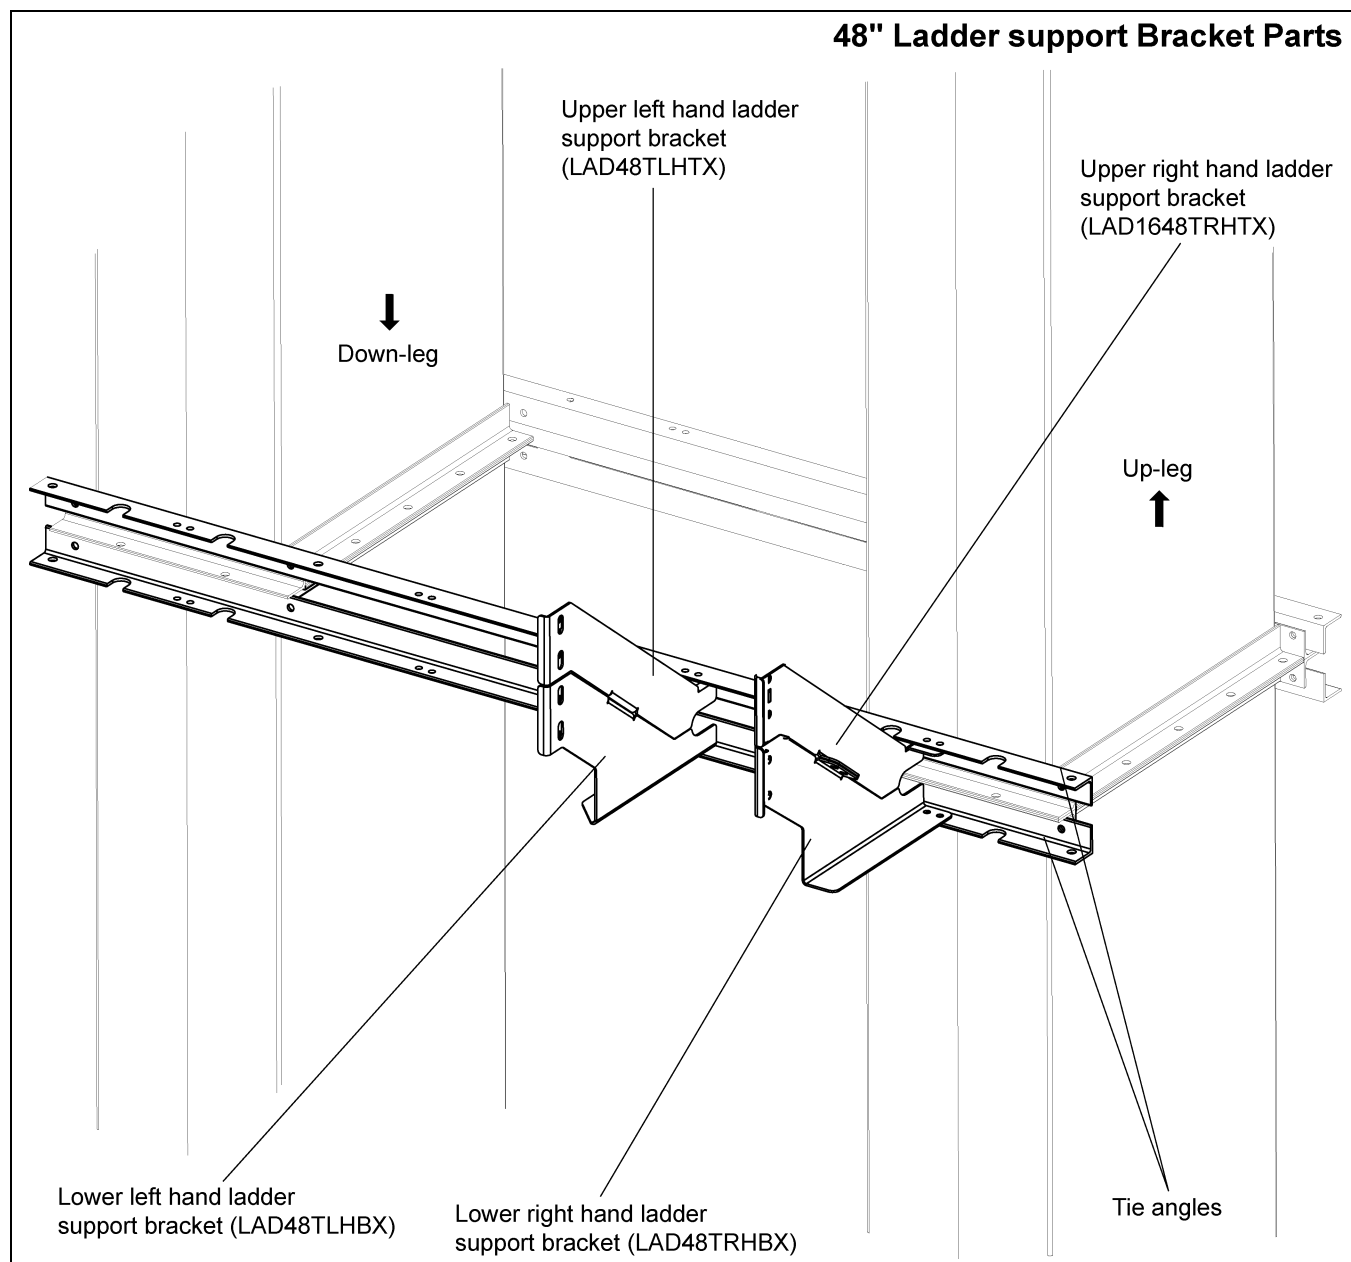
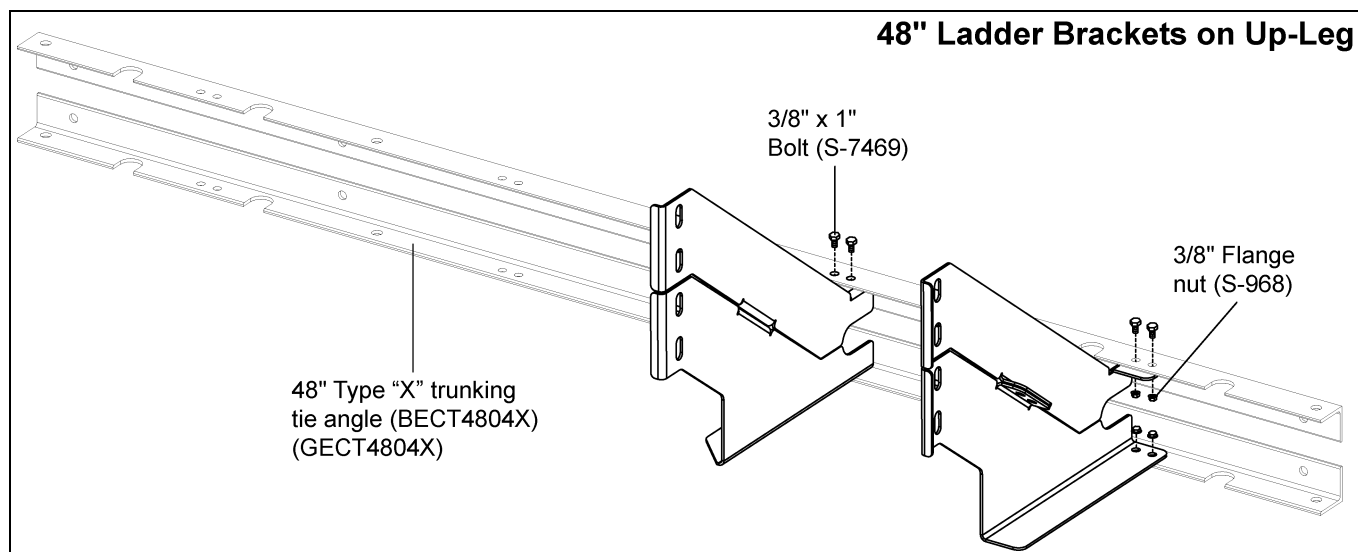
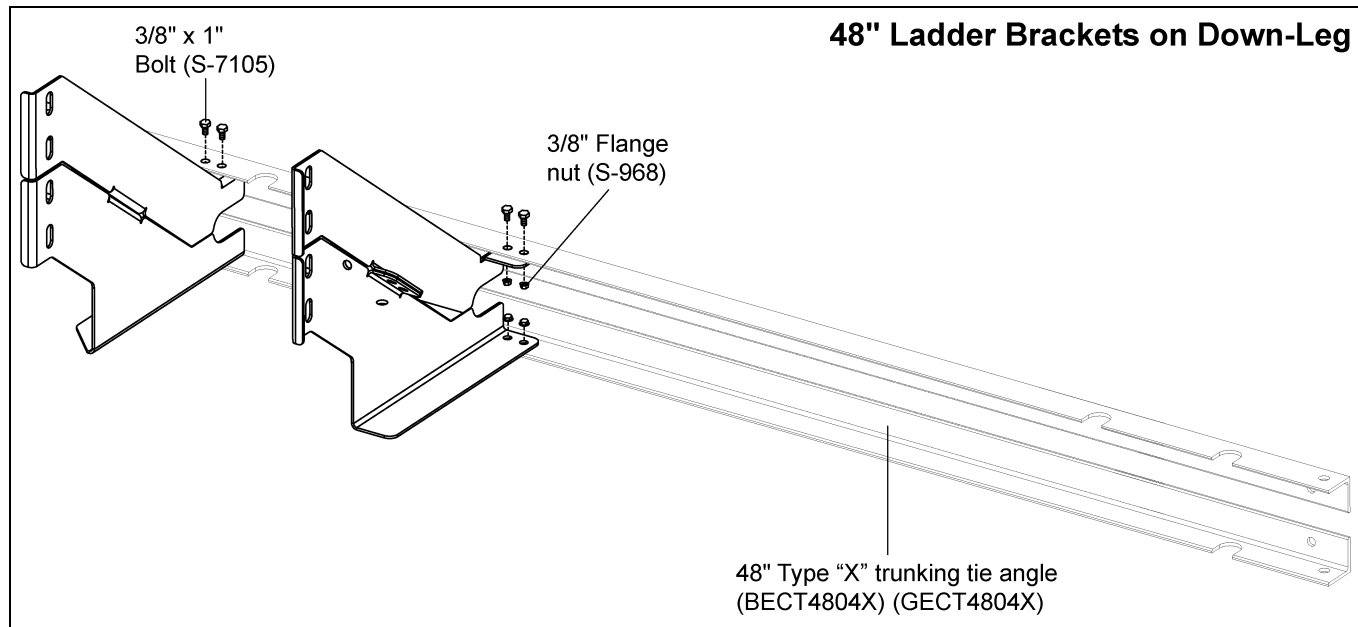

Figure 6R 48" Ladder Support Bracket Parts
Figure 6S 48" Ladder Bracket Location for Up-Leg
Figure 6T 48" Ladder Bracket Location for Down-Leg
3. Fasten flanges of brackets and brackets to tie angles using 3/8" x 1" HHCS bolts (S-7469) and 3/8" flange nuts (S-968). *(See Figure 6R below, Figure 6S and Figure 6T on Page 34.)*